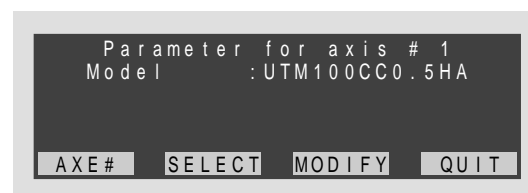

Fig. 1.14 — Axis/Device Assignment.
- 10 When the display returns to a screen similar to Fig. 1.14, observe the axis specified on the first line and the component on line two. They should correspond to the selections you made and to the motion device used on that axis.
- 12** When all necessary modifications are completed, from the screen shown in Fig. 1.14, press the **QUIT** key. If modifications to any axis have been made, the next screen will ask if you want to save the changes (Fig. 1.15).